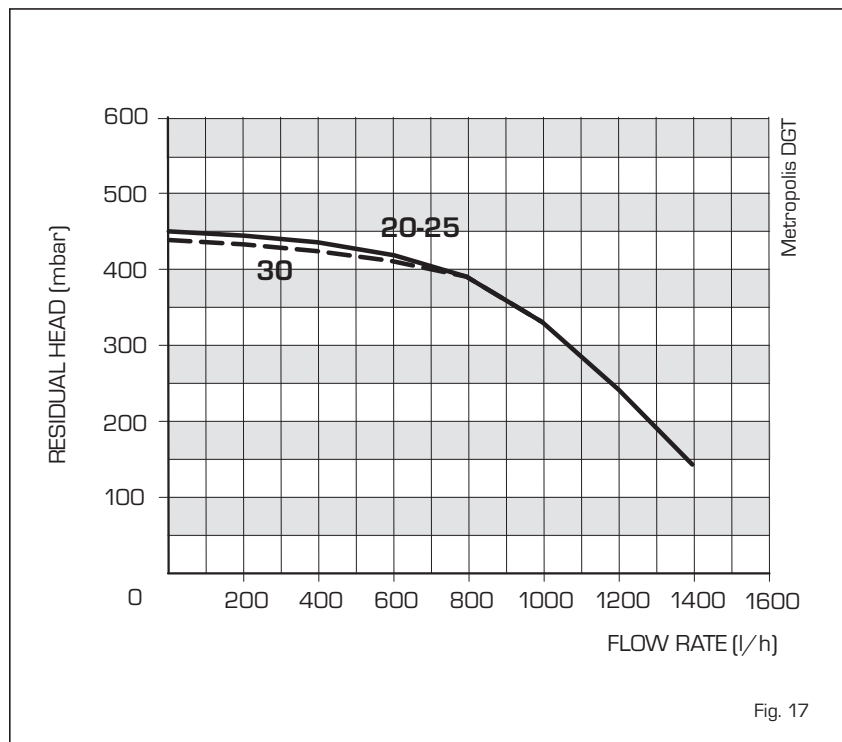

Fig. 17
3.10 HEAD AVAILABLE TO SYSTEM (fig. 17)
Residual head for the heating system is shown as a function of rate of flow in the graph in fig. 17.